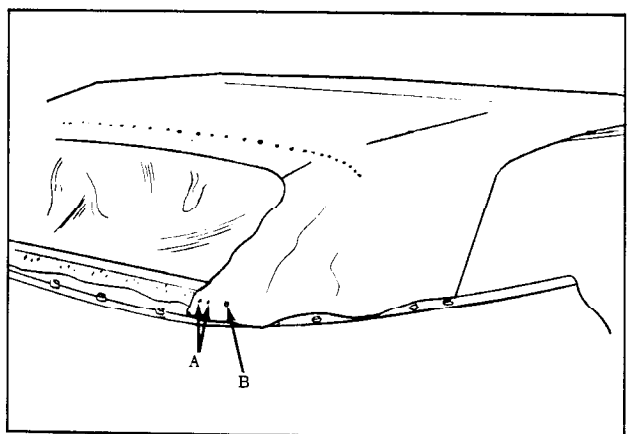

Fig. 17-40 Tacking Top Material
37. Using previously marked lines (ends of trim stick) as locating reference, tack top material to rear and rear quarter trim stick. ("A", Fig. 17-40 shows top material installed to rear trim stick at inboard edge.)